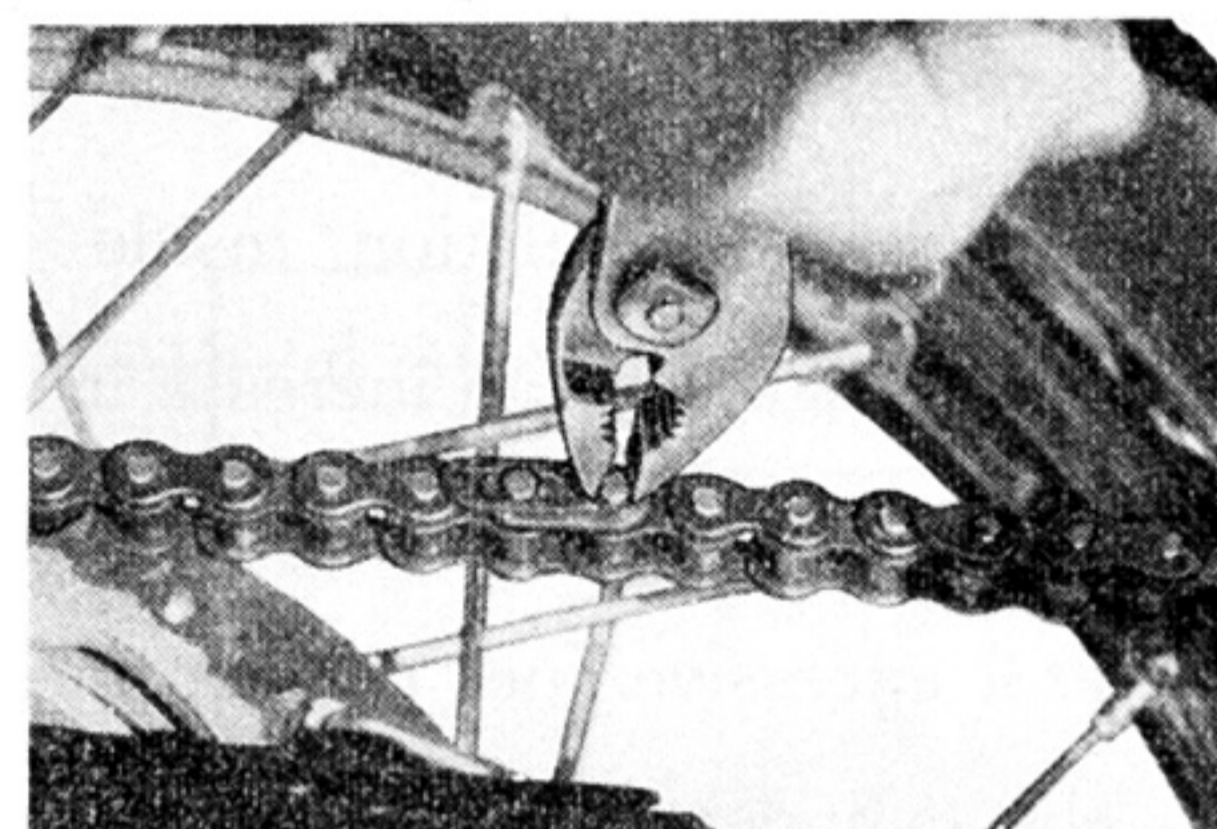

Fig. 3-1-9
9. Remove the chain. (Fig. 3-1-9)